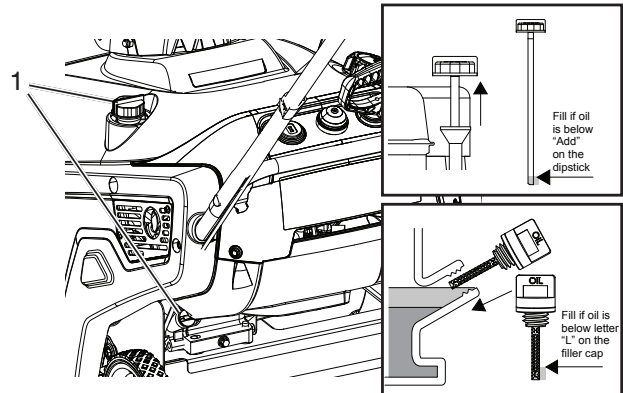

Figure 8
2. Clean around the dipstick (Figure 8).